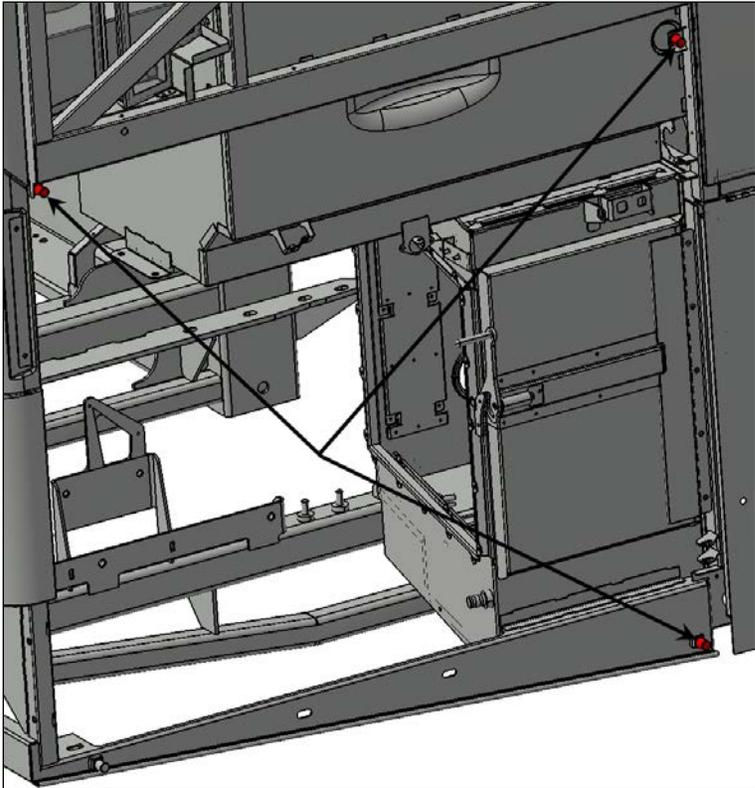
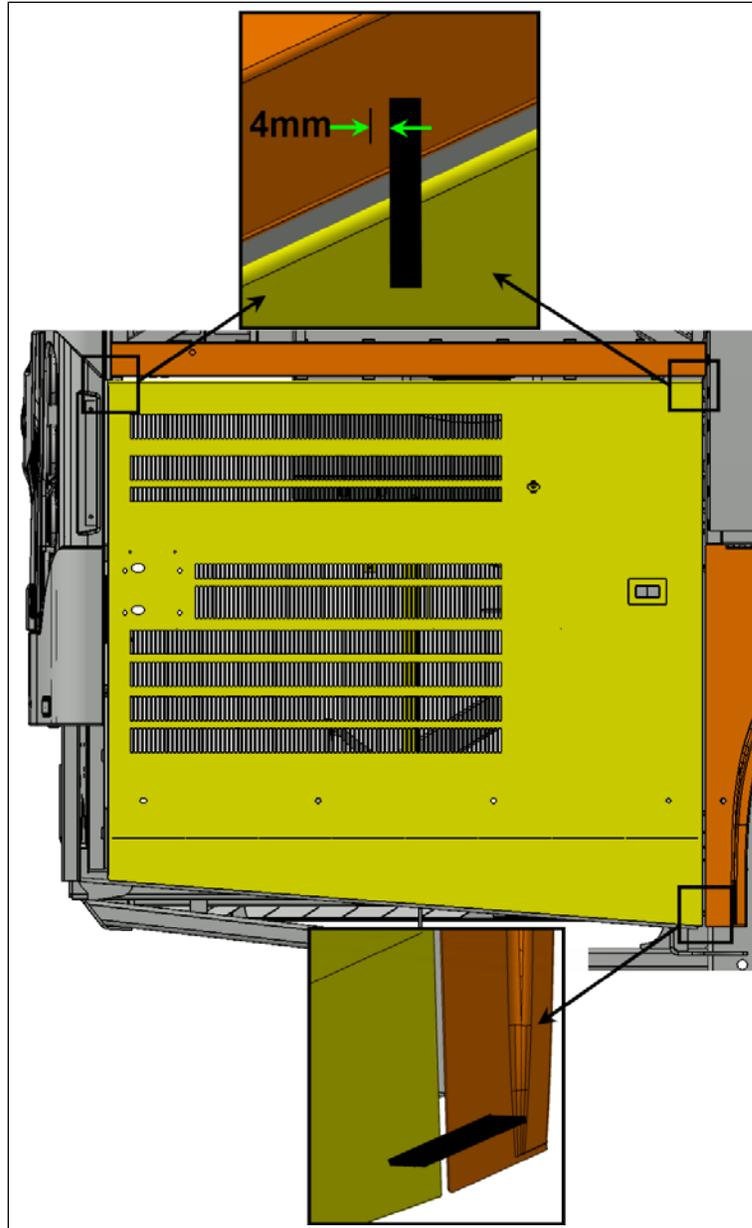

FIGURE 20
FIGURE 21
19. Screw in or out the two upper stoppers so that the upper part of the door exceeds the horizontal member by 5/32" to 3/16" (4mm to 5mm) (see FIGURE 20 & FIGURE 21).